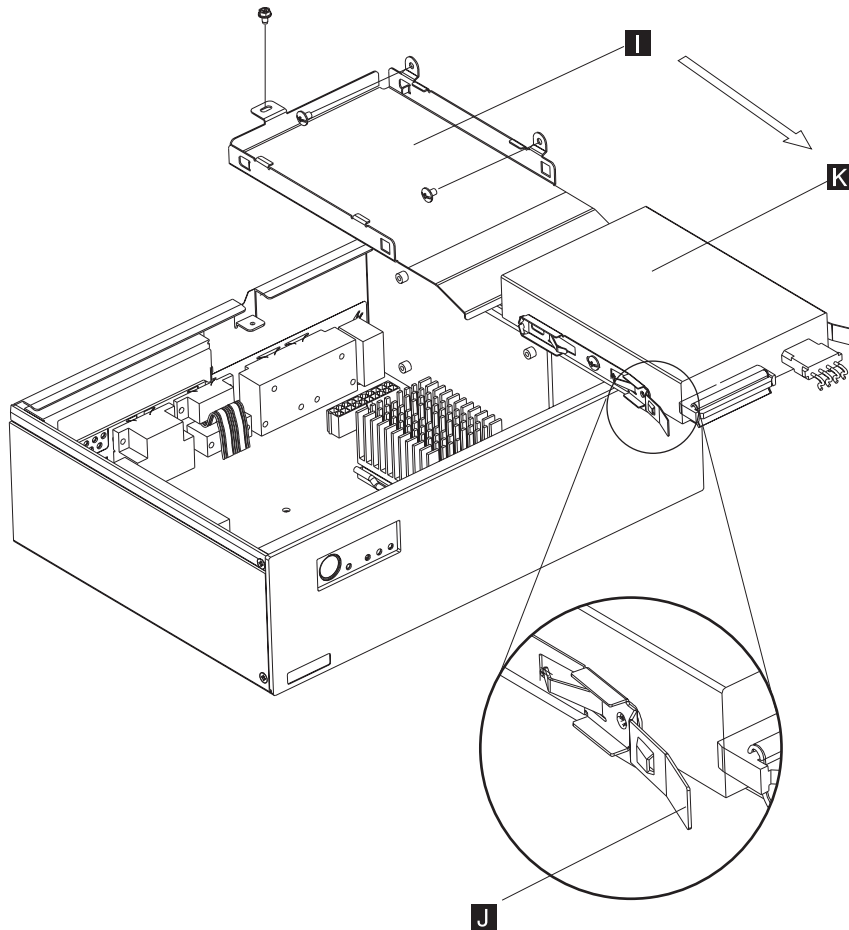

Figure 2-2. Bracket assembly and hard drive
3. Remove the hard drive (**A** in Figure 2-2 on page 2-2) or compact flash (**B**):
- b. Using Figure 2-2, follow the directions for either an HDD or flash memory.